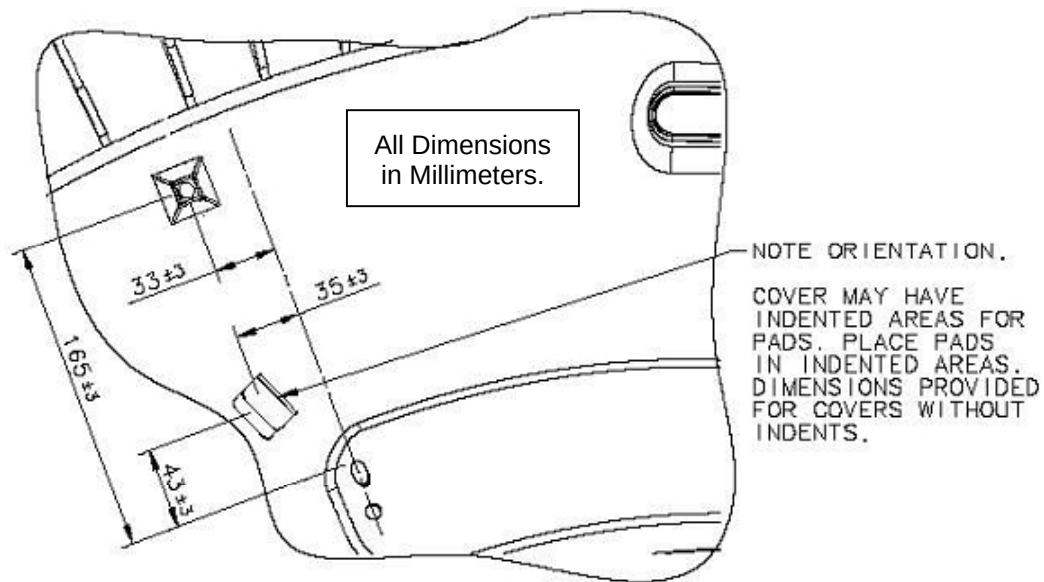

Figure 3 New Restraint Locations and Orientation
5. If your cover is manufactured by Parkway Plastics, it will be brown in molded color and have no indents and you will need to measure the location of the new clips. Reference Figure 3 for location of new clips.